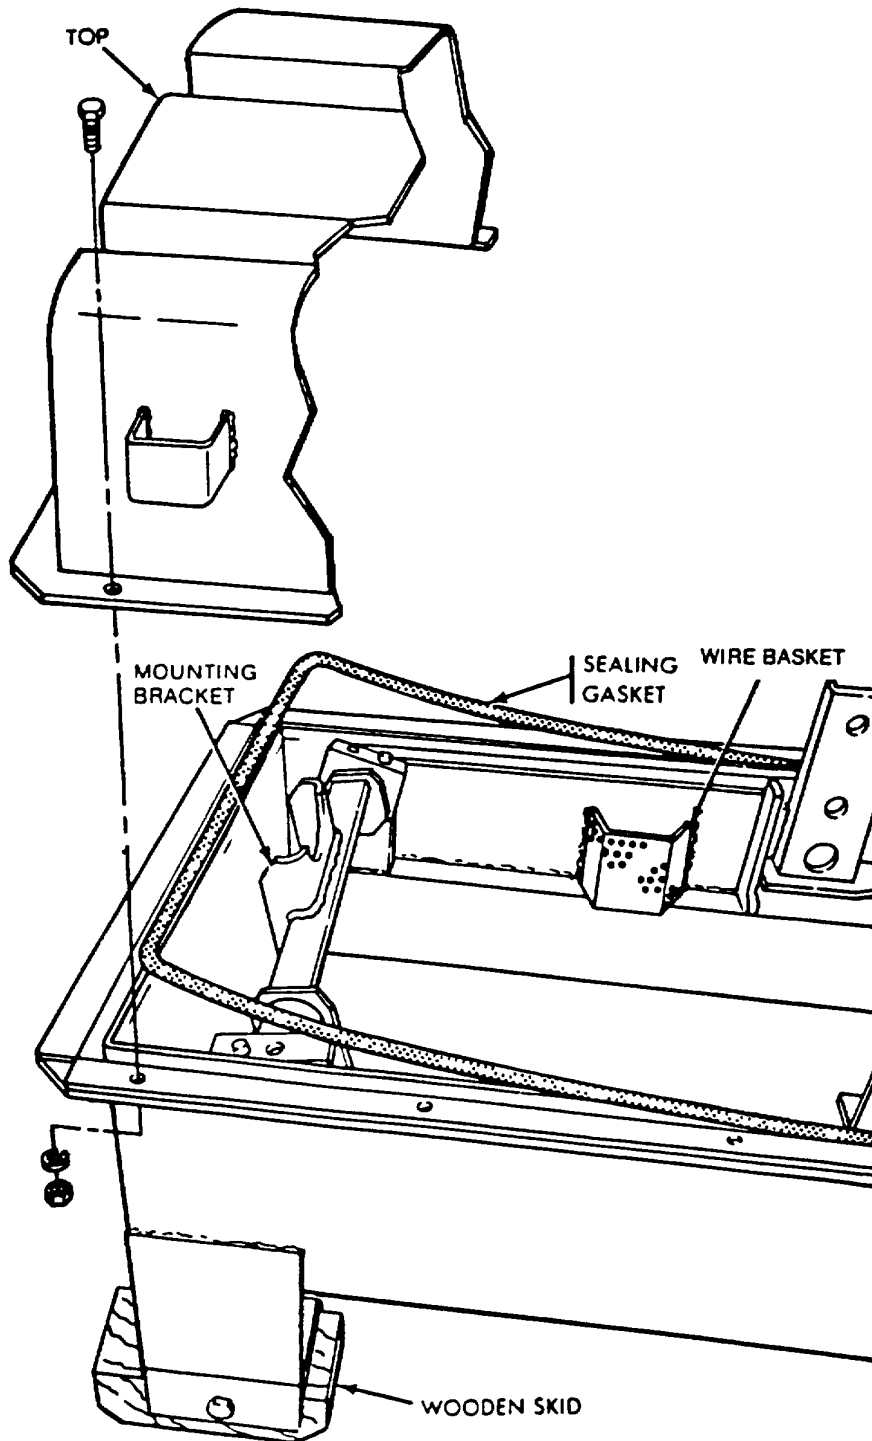

Figure 2. - Types I & II. Removal of upper and lower halves of container showing sealing gasket, mounting flanges. wooden skids.
(5) Visually inspect desiccant port covers/assemblies. If damaged/unserviceable, replace with new. Reinstall desiccant port cover/assembly. (See paragraph 5i)
(6) Inspect vibration dampener mounts for defects, such as crackling, tearing or evidence of separation of bonding between metal and elastomer, which may affect the function of the mount. Note date of manufacture. (See paragraph 5h) (Fig. 2)
(7) Inspect skids while on container for weakness and wear by noting the following defects. (See paragraph 5j)
(Fig. 2)